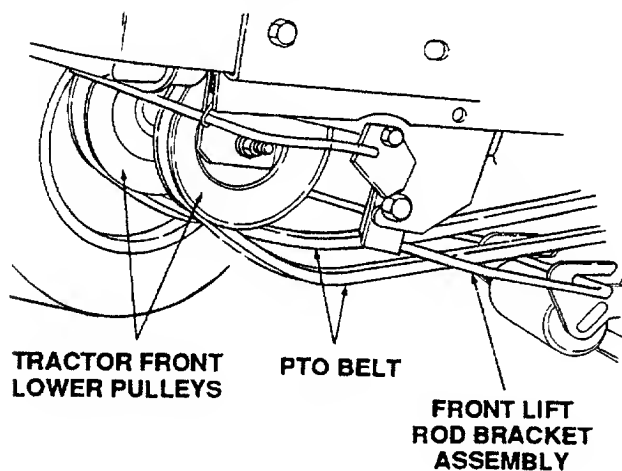

Figure 55
12. Twist the PTO belt 1/4 turn to engage the narrow sides of the belt into the grooves of the two tractor front-lower pulleys. (Refer to Figure 55.)